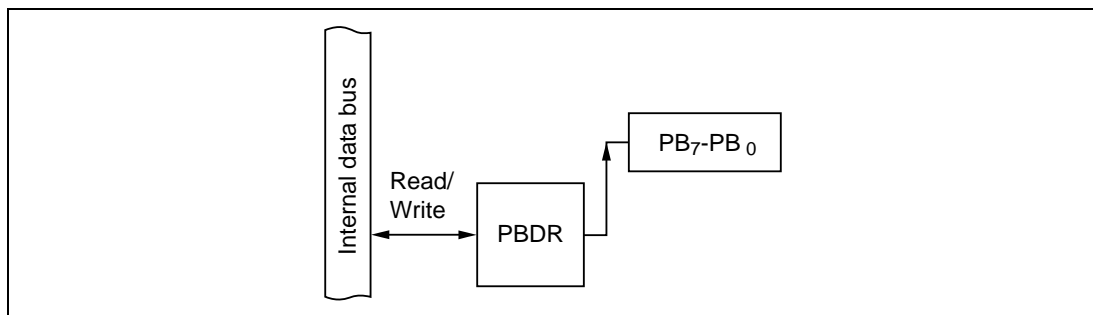

Figure 10-80 Output Port (Mode 7)
(3) Output Port (Mode 7): Figure 10-80 shows a block diagram illustrating the general-purpose output function. Table 10-60 indicates register read/write data. The value written in the port B data register (PBDR) is output at the pin. When read, PBDR returns the value written in PBDR.